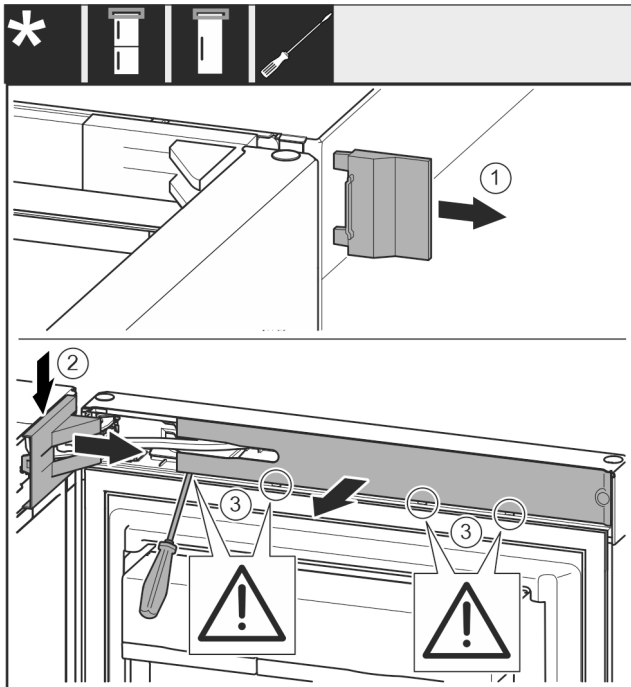

Fig. 4
- Remove the outer cover. Fig. 4 (1)
- Disengage and release the bearing bracket cover. Remove the bearing bracket cover. Fig. 4 (2)
- Unlatch the panel with a slotted screwdriver and swivel it to one side. Fig. 4 (3)